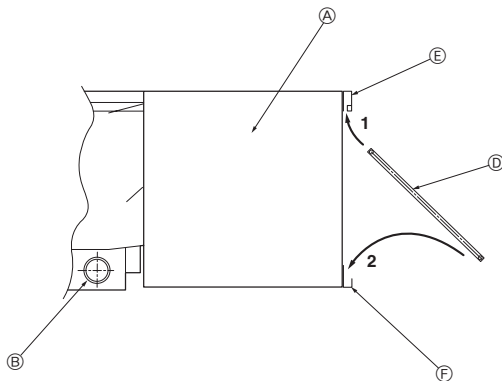

Fig. 8-4
8.4. Filter installation points (Rear air intake) (Fig. 8-4)